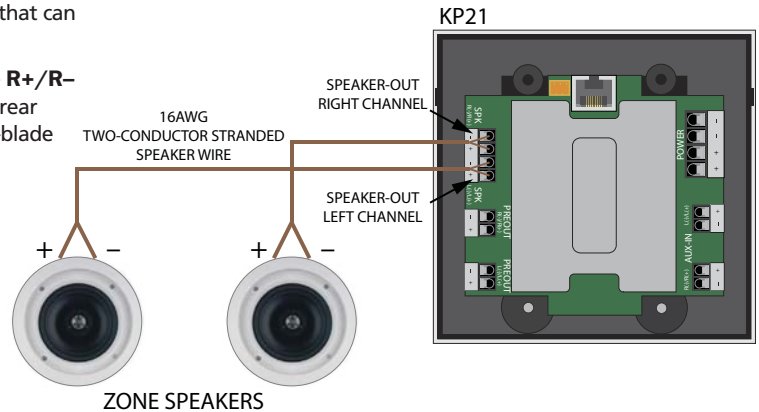

Figure 31.
2. Insert the twisted ends into the appropriate slots on the **R+/R-** and **L+/L-** **Speaker (SPK) Terminals** 24 on the KP21 rear panel, as shown in **Figure 31**, and tighten with a small-blade screwdriver. Pull the wire slightly to confirm connection. Confirm polarity.